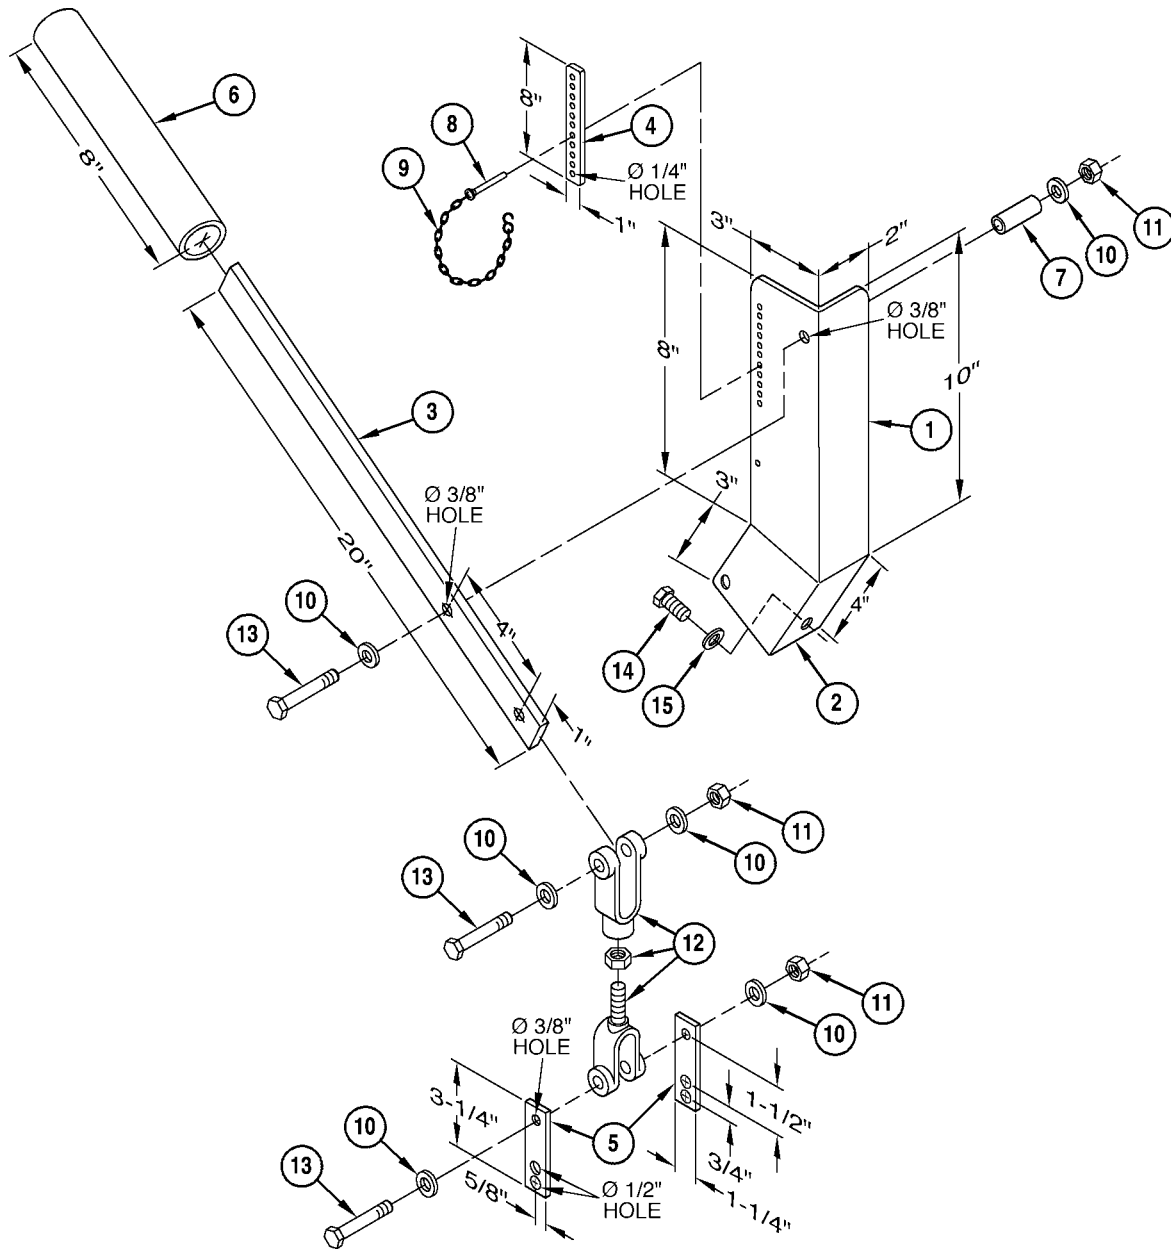

Figure 2-28. Brake Stall Test Tool (M113A3/M548A3)
1. Measure 9 inches on one side of steel angle (1) and 10 inches on the other side. Scribe a line joining the marks.
2. Cut steel angle (1) at approximately 60° along scribed lines.
3. Measure 3 inches on one side of steel angle (2) and 4 inches on the other side. See Figure 2-28. Scribe a line joining the marks.
4. Cut steel angle (2) at approximately 60° along scribed lines.
5. Weld steel angles (1) and (2) along 60° angle. See Figure 2-28.
6. Scribe a line one inch from end of 1/4-inch steel plate (3) and four inches from the one inch scribe line. Scribe a line centered lengthwise (1/2 inch from edge). See Figure 2-28.
8. Measure down the middle of 1/8-inch plate (4) and scribe a line.
9. Starting about 3/4-inch from end of 1/8-inch steel plate (4), scribe ten lines evenly spaced (approximately every 29/64).
10. Drill ten 1/4-inch holes where scribe lines intersect. See Figure 2-28.
11. Bend 1/4 inch on both ends of 1/8-inch steel plate (4) approximately 90°.
12. Using 1/8-inch plate (4) as template, drill ten 1/4-inch holes in 1/4-inch steel angle (1).
13. Drill 3/8-inch pivot hole on the 9-inch side of 1/4-inch steel angle (1). See Figure 2-28.
14. Measure 5/8 inch and scribe a line on two 1/4-inch steel plates (5), centered.
15. Scribe three lines 1/2 inch, 1-1/2 inch, and 3/4 inch from end of 1/4-inch steel plate (5). See Figure 2-28.
16. Drill 3/8-inch hole where first line intersect and two 1/2-inch holes where the remaining two lines intersect in two 1/4-inch steel plates (5). See Figure 2-28.
17. Cut rubber hose (6) approximately 8 inches to be used as a handle for steel plate (3). See Figure 2-28.
18. Align holes in the angle (1) and adjusting plate (4) weld plate (4) to angle (1). Insert handle (3) between plates (4) and angle (1) secure with one screw (13), two washers (10), roll spacer (7), and nut (11). Attach rod-end clevis (12), screw (13), two washers (10), and nut (11) to handle (3). Attach two plates (5) to rod-end clevis connector (12) with one screw (13), two washers (10), and nut (11). Push rubber hose (6) onto handle (3).